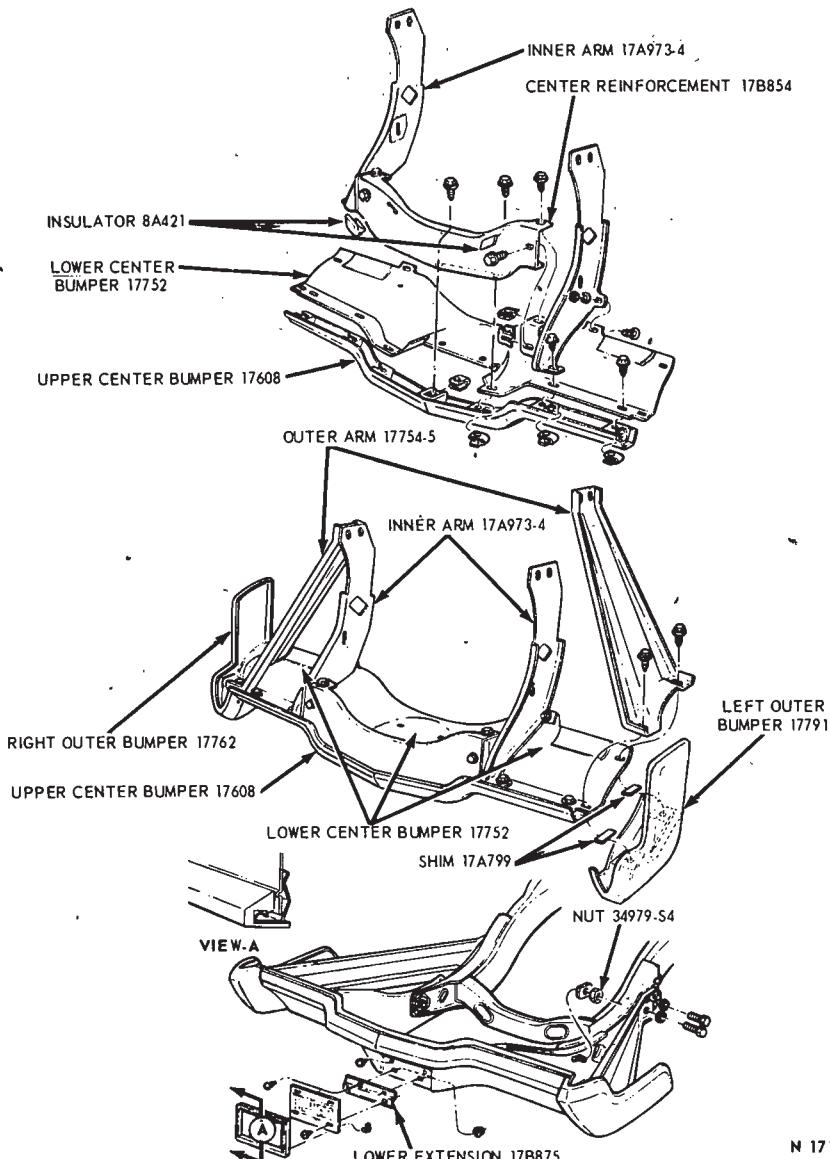

FIG. 20—Front Bumper Installation
2. Remove the center reinforcement from the inner arms and bumper (Fig. 20).
3. Remove the left and right outer bumpers and outer arms from the bumper (Fig. 20).
5. Remove the upper center bumper from the lower center bumper (Fig. 20).